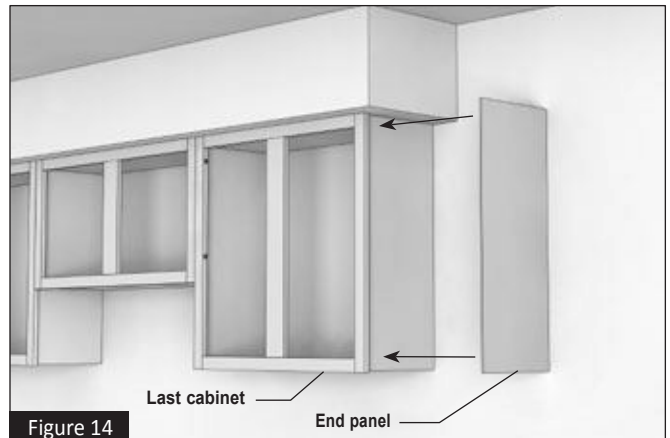

Figure 14
5.1 If your application uses a finished end panel, first trim the panel to fit and then attach the panel to the side of the cabinet. This can be done with contact adhesive or $\frac{1}{2}$ " finishing nails. (Figure 14)